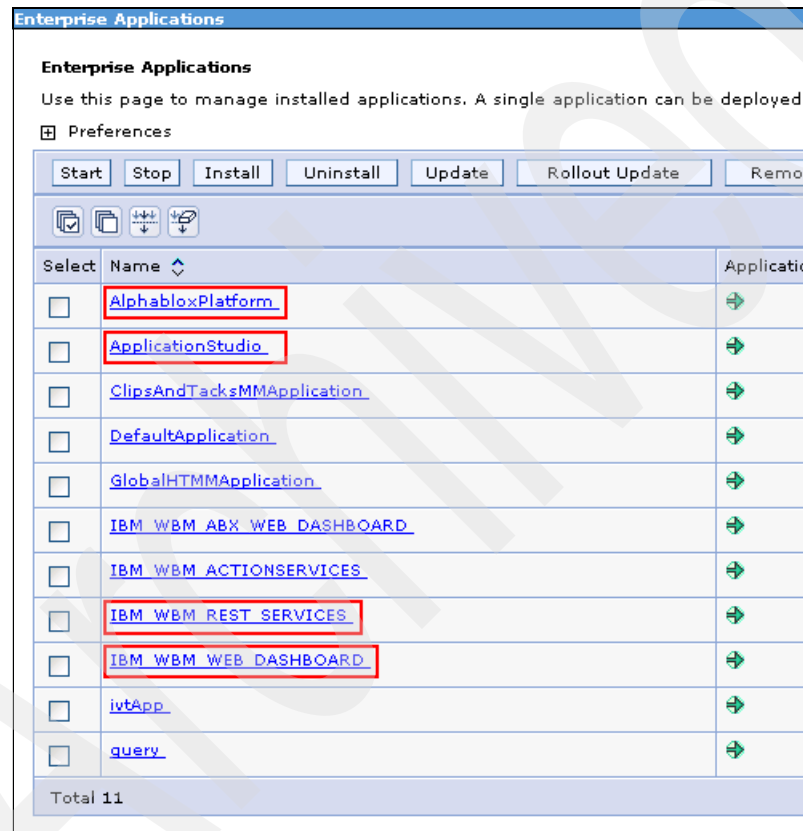

Figure A-36 Selecting WebSphere Business Monitor applications
3. In the Enterprise Application panel (Figure A-36), click the **AlphabloxPlatform** application.
9. In the administrative console, expand **Applications** and click **Enterprise Applications**. In the right pane, click the **ApplicationStudio** application (Figure A-36 on page 760).
- 15.In the administrative console, expand **Applications** and click **Enterprise Applications**. In the right pane, click the **IBM_WBM_REST_SERVICES** application (Figure A-36 on page 760).
- 20.In the administrative console, expand **Applications** and click **Enterprise Applications**. In the right pane, click **ApplicationStudio** and **IBM_WBM_WEB_DASHBOARD** (Figure A-36 on page 760).